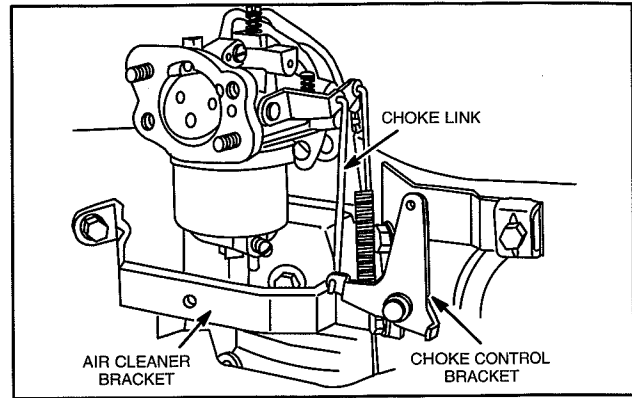

Fig. 63 – Install Choke Control Bracket
3. Connect choke link to choke lever and install choke control bracket, Fig. 63.